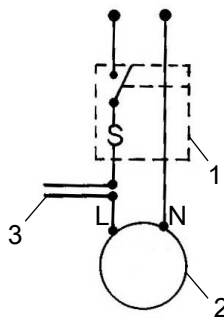

Figure 3: Typical wiring installation schematic 1Ø power source
3. Using a minimum size 14 AWG copper electrical wire (refer to your local code for wiring restrictions), wire the motor to a single phase power source that matches the electrical rating on the pump nameplate. See Figure 3 on page 3. Use the size of electrical wire as dictated by local code.